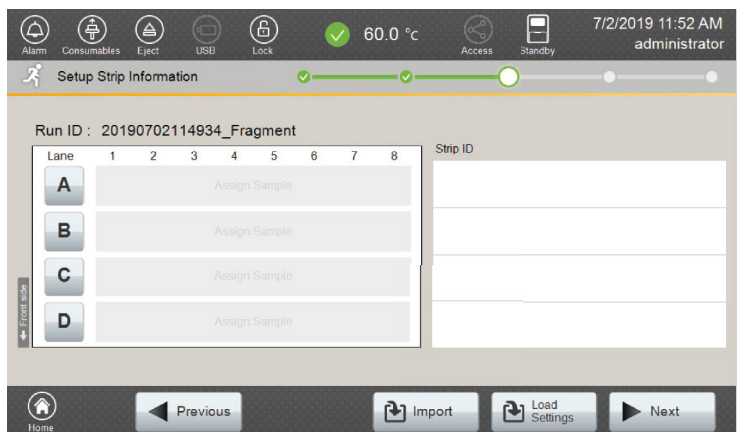
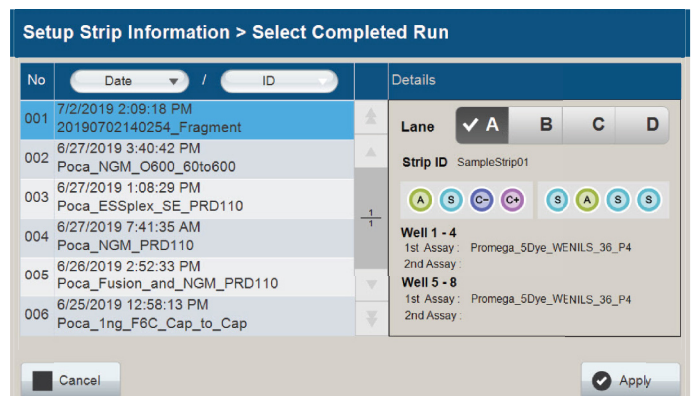

Figure 71. 'Setup Strip Information' screen: Reusing a run.
Figure 72. 'Select Completed Run' screen.
1. Select **Load Settings** at the bottom of the 'Setup Strip Information' screen (Figure 71) to open the 'Select Completed Run' screen (Figure 72).
2. Select the desired run from the list on the left side of the screen (Figure 72), and then select **Apply**. This takes you back to the 'Setup Strip Information' screen showing the information from the selected run.
- b. Ensure that the Run ID you created in Section 5.3 is different from the one selected from the list of completed runs in Figure 72.
4. Select **Next** on the 'Setup Strip Information' screen (Figure 71).
5. Select **Next** on the 'Setup Strip Information' screen (Figure 71).
7. Select **Next** on the 'Setup Strip Information' screen (Figure 71).